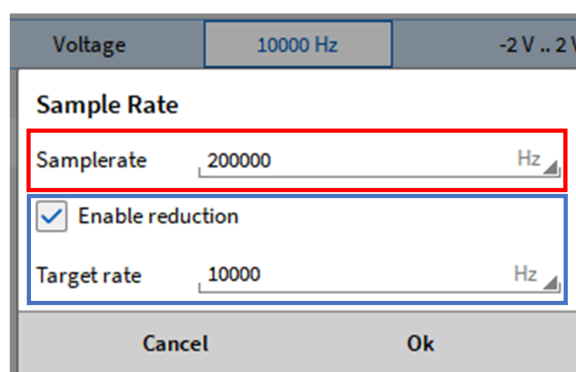

Fig. 7.34: Channel-wise sample rate settings
This chapter shortly explains the working principle behind the channel-wise sample rate selector. The samples are physically sampled with the set sample rate, which is defined in the channel list (red box in Fig. 7.34). If the reduction is enabled the user can set a reduced sample rate (blue box in Fig. 7.34) which is converted to an integer divider in the background and unnecessary samples are skipped
- Individual points to specify x- and y-values can be added by clicking on the + button (see Fig. 7.34)